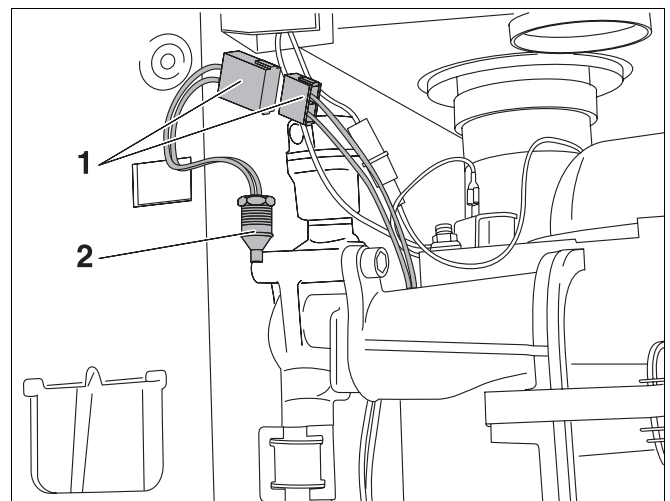

Fig. 65 600 Series 11S / 19S / 24S / 24C:
- Loosen the plug-in connection (fig. 65, item 1).
- Unscrew the sensor (fig. 65, item 2) and replace with a new unit.